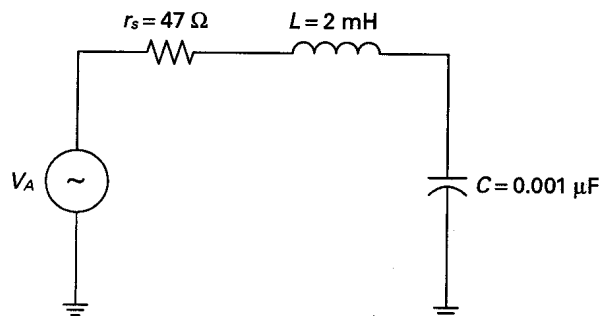

Fig. 1-14
- 1.1 Calculate the resonant frequency  $f_0$  in Fig. 1-14.
- 1.2 In Fig. 1-14, calculate  $X_L$  and  $X_C$  at  $f_0$ .
- 1.3 Refer to Fig. 1-14. Calculate the total impedance  $Z_T$  at  $f_0$ .